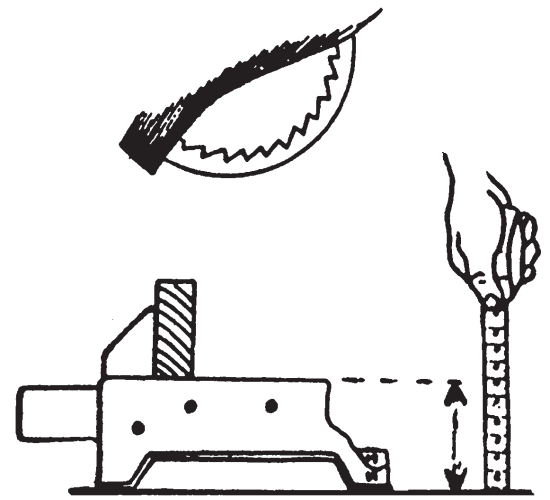

FIG. 1
Measure saw height as shown in **FIG 1**
A. Using measurement from Step 1. plus 1-3/16", measure down from the top of all 4 corner posts (D) and make a mark. Mount cross member (E) to corner post (D) using (D) bolts (A) and nuts (B). (Fig. 1) The top bolts should go through holes nearest the marks. Thumb tighten only at this time. Bottom bolts on cross member (E) should be located during final adjustment.